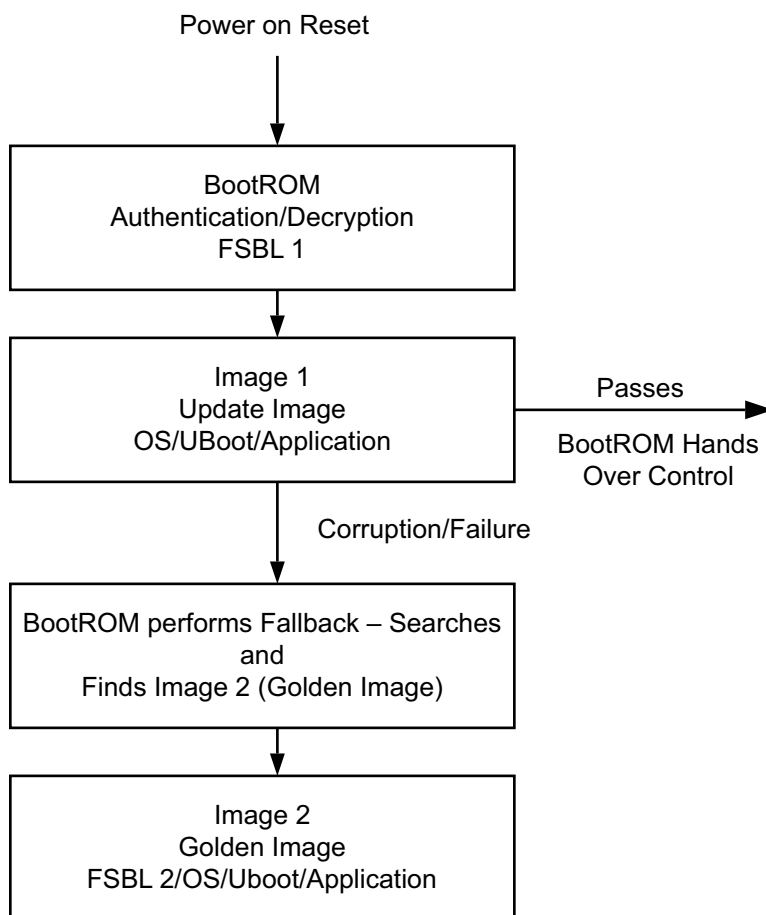

Figure 3-6: Power on Reset Fallback
- If there is corruption in the boot header, BootROM does a fallback search to find the next valid image. In the example shown in Figure 3-6, BootROM validates the Image 2 boot header, and, if no corruption, hands over the Image 2 to FSBL, which processes the rest of the partitions in Image 2.